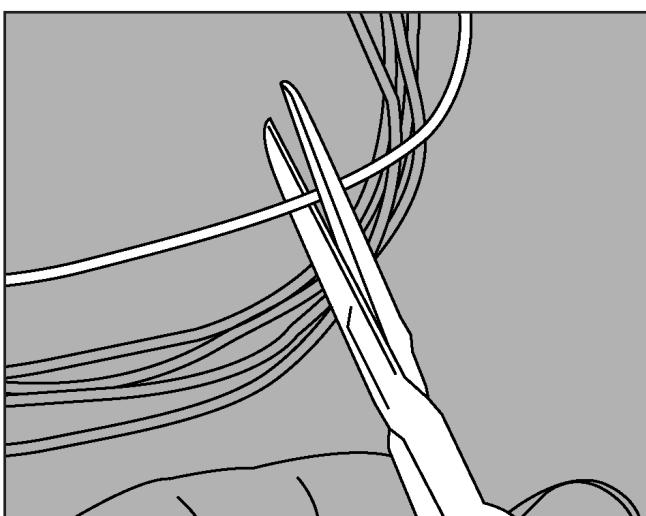

Figure 2
- Identify which is the CO/Exchange (feed) side providing the service and cut the loose tube and fibers at the midway point approximately 2m (78") from the End Plate or as per company practice. (Figure 2)